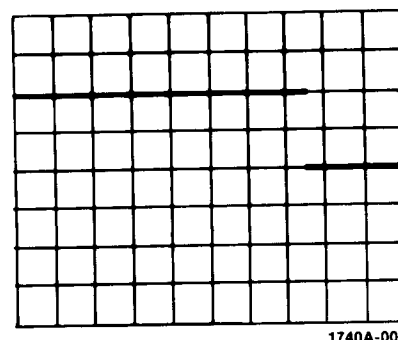

Figure 3-6. Delayed Sweep Display
d. Press DLY'D 48 and note that intensified portion of trace is now displayed across entire CRT (see figure 3-6).